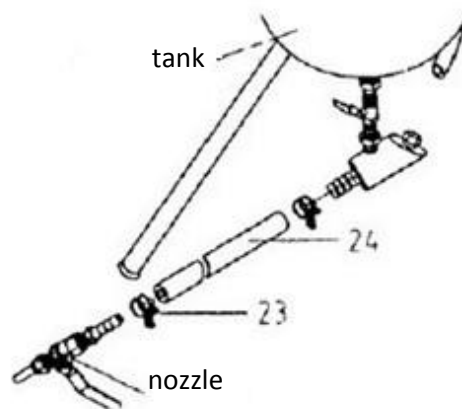

Figure 6
6. Refer to Figure 6 to connect the sand metering valve (item 4) to the nozzle shut-off valve, (step 5). Place hose clamps (23) over each end of the sand tube (24). Clamp one end of the hose onto the sand outlet fitting (22) and clamp the other end onto the adapter (25). Both ends of the hose should be firmly seated on the fittings. Slide the clamps along the hose to each fitting and tighten securely so that the system is airtight and will withstand pressures of 65-125 PSI.